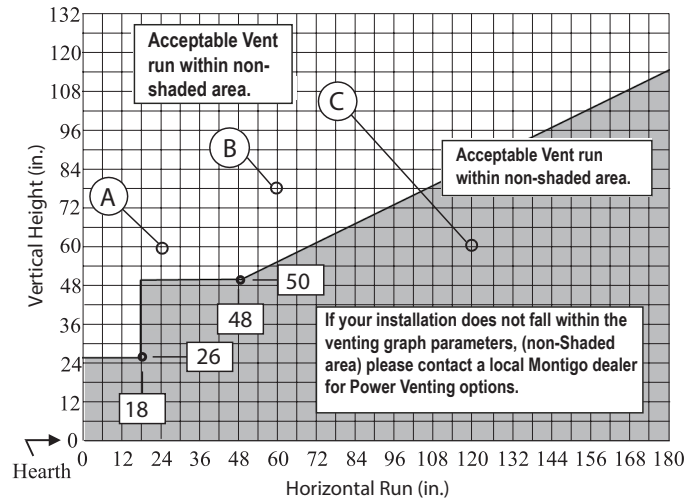

Figure 16. H\*34DF\* Rear Vent Venting Graph for wall mounted terminations, See Figures 16a or 16b.
- Venting runs *must* fall within the limits set by the venting graph, see Figure 16.
Measure the vertical height from the fireplace hearth to the centre of the termination and the horizontal run from the fireplace flue collar to the wall flange of the termination. Plot on the Venting Graph Figure 16 with an 'X'.
Figure 16b. Rear Vented, wall mounted Multi-elbow termination installation. Multi-elbow venting Installation for H\*34DF\* must have a minimum vertical rise of 50". The vent run must comply with the Venting Graph for Rear vent, wall mounted terminations, Figure 16.